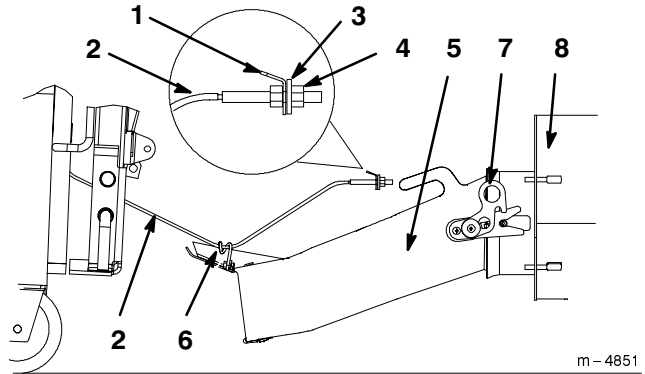

Figure 36
14. Route plenum cable under seat. Raise seat, to gain access to plenum cable. Install cable into bracket and install washer and nut (Fig. 36).